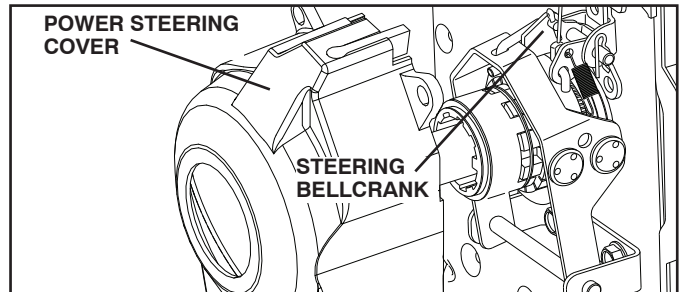

FIG. 31
- Remove the plastic power steering cover. (See Fig.31)